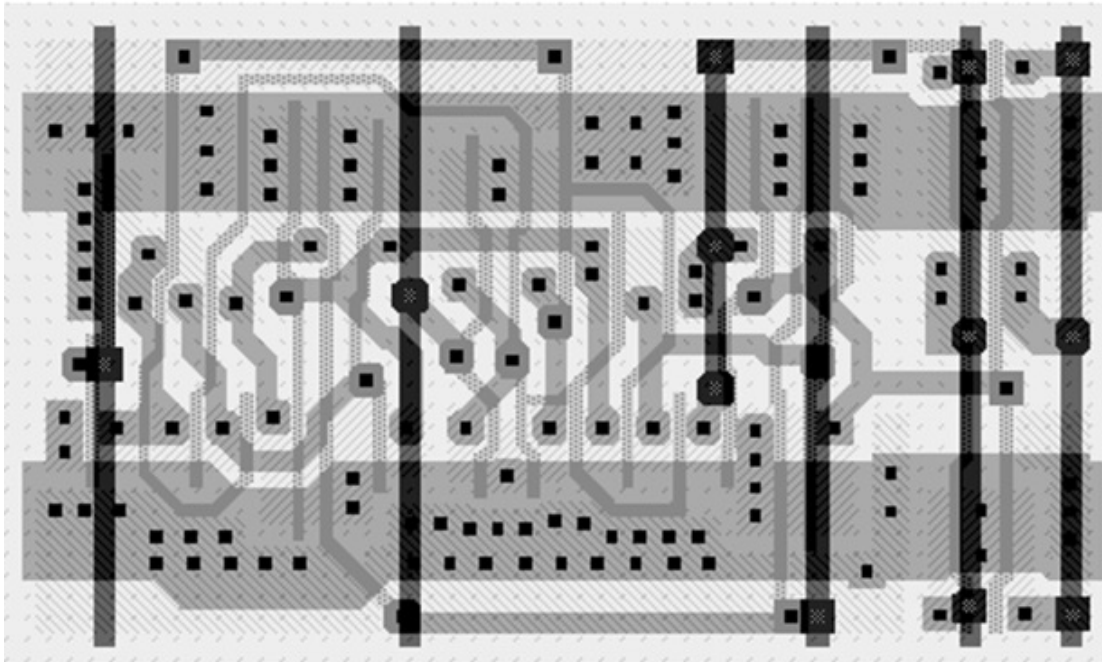

Figure 1- D Flip Flop standard cell, circa 1990.
In this month's Technical Tidbit, we will cover the topic of standard cell libraries, and their evolution over the past 30 to 40 years. Standard cell libraries were introduced in the 1980s to help integrated circuit (IC) designers become more productive. They are now used in virtually every chip technology. Initially, standard cell libraries did not have many limitations in terms of the layouts of the cells themselves. Figure 1 shows an example of a D Flip-Flop standard cell from approximately the 1990 timeframe.
The standard cell in Figure 1 illustrates some common principles used early on in standard cell design:
- Connectors were placed at the top and bottom of the cell in metal-2 on a routing grid equal to the vertical track spacing. This is a double-entry cell intended for a two-level metal process. Briefly, a track is a channel (horizontal in Figure 1) for a particular layer of interconnect. In Figure 1, the track would be associated with metal-2. A standard cell designed for a three-level metal process would sometimes have connectors placed in the center of the cell.
- In Figure 1, the cell height is 64λ (λ = the minimum feature size in the chip design) with a horizontal (metal-1) track spacing of 8λ . Almost universally, all cells in the library would be the same height. This is close to the minimum height that can accommodate the most complex cells in a library.
- In Figure 1, we show both wells. Some libraries minimize the well or moat area to reduce leakage and parasitic capacitance.